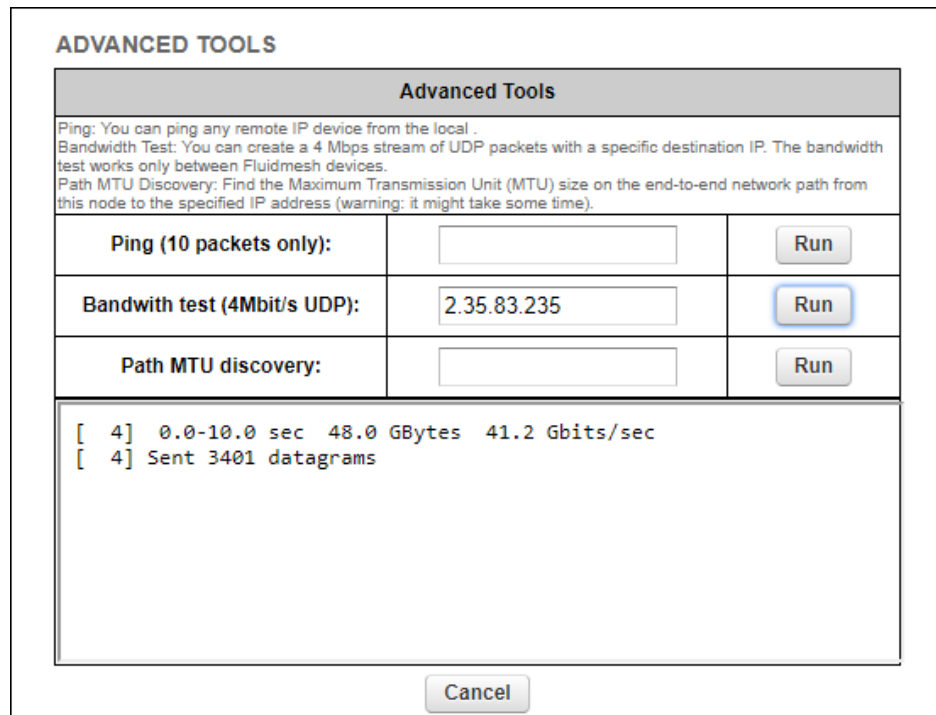

Figure 30. Advanced Tools window (Bandwidth test tool)
2. Enter the IP address of the other unit in the **Bandwidth test (4Mbit/s UDP):** field (Figure 30 (page 91)).